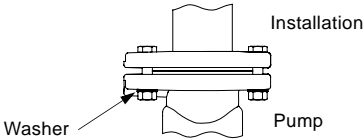

Fig. 3
When installing pumps, types UPS(D) 32-xx, 40-xx, 50-xx and 65-xx, with oval bolt holes in the pump flange, washers must be used as shown in fig. 3.